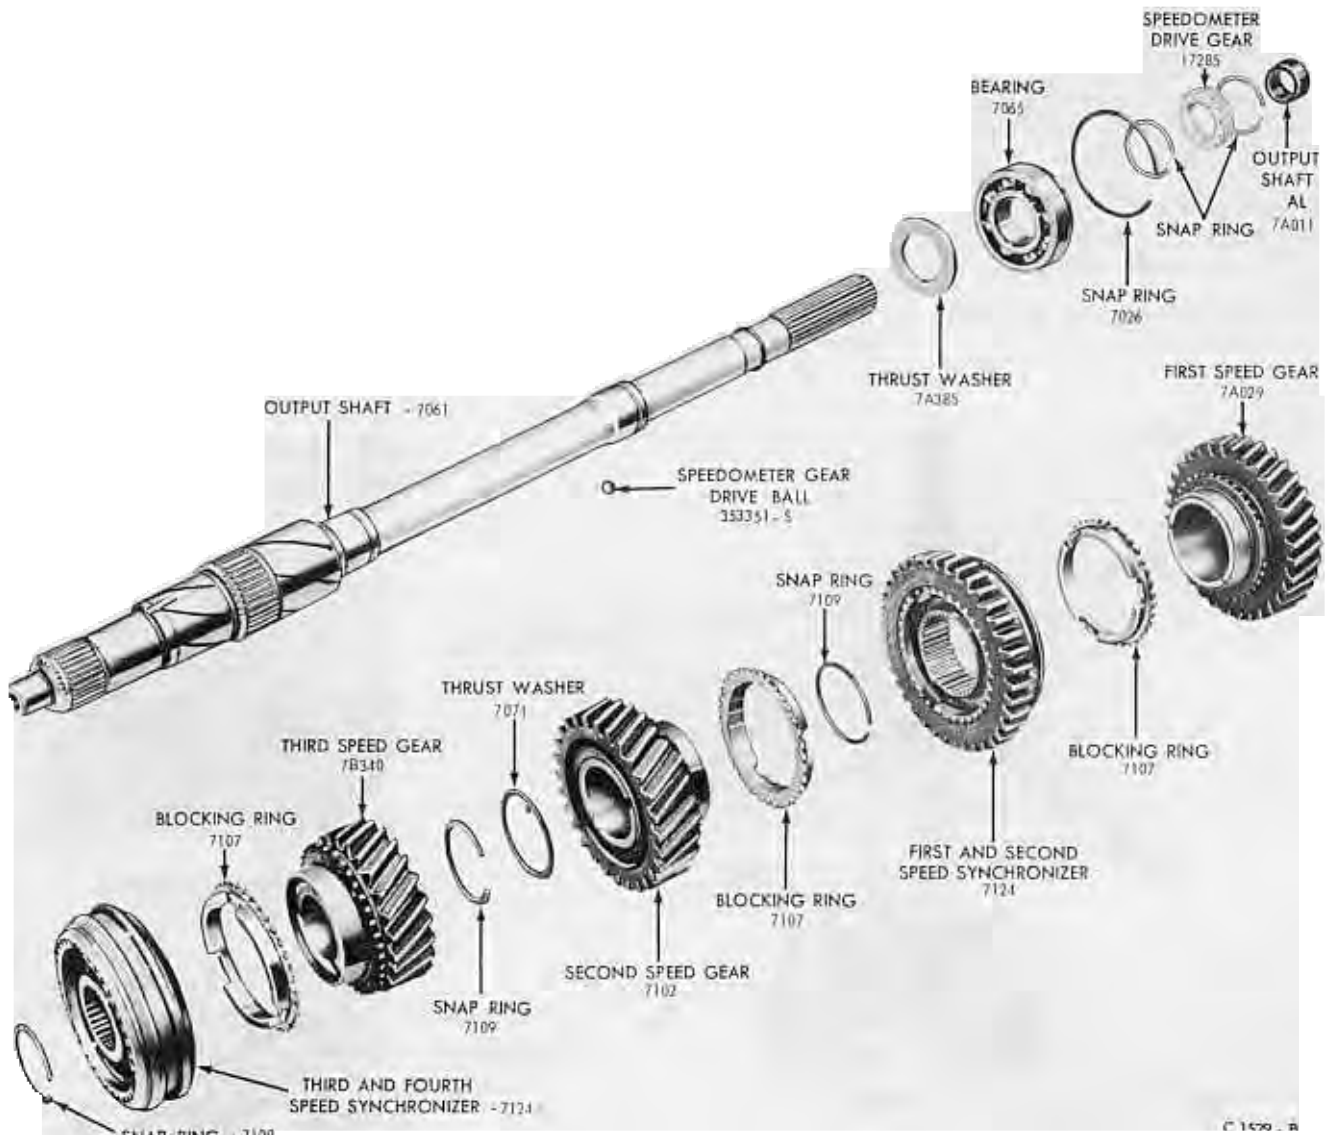

FIG. 11—Output Shaft Disassembled
23. Remove the snap ring from the front of the output shaft. Slide the third- and fourth-speed synchronizer (Fig. 11) blocking ring and the
11. Install the first- and second speed synchronizer onto the front of the output shaft (Fig. 11) making sure that the shift fork groove is toward the rear of the shaft.